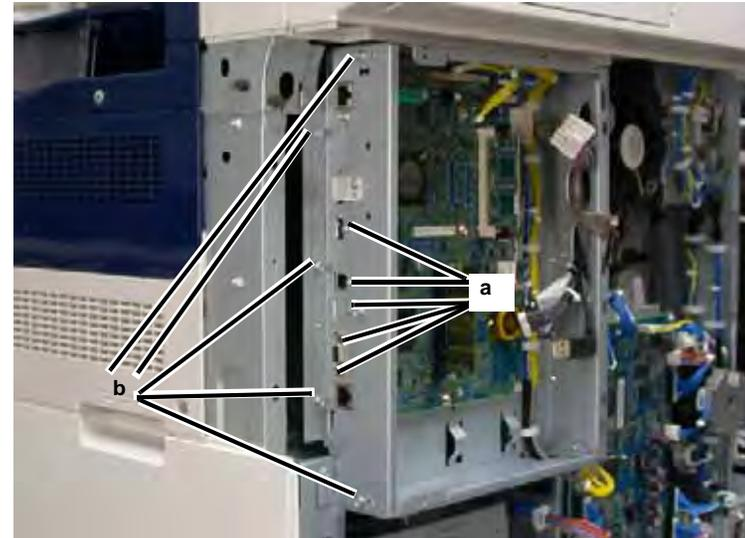

Figure 6 Removing Screws
7. Remove the left side of the PWB panel (Figure 6).
- a. Remove the PWB connector Screws (5).
- b. Remove the panel left side Screws (5).